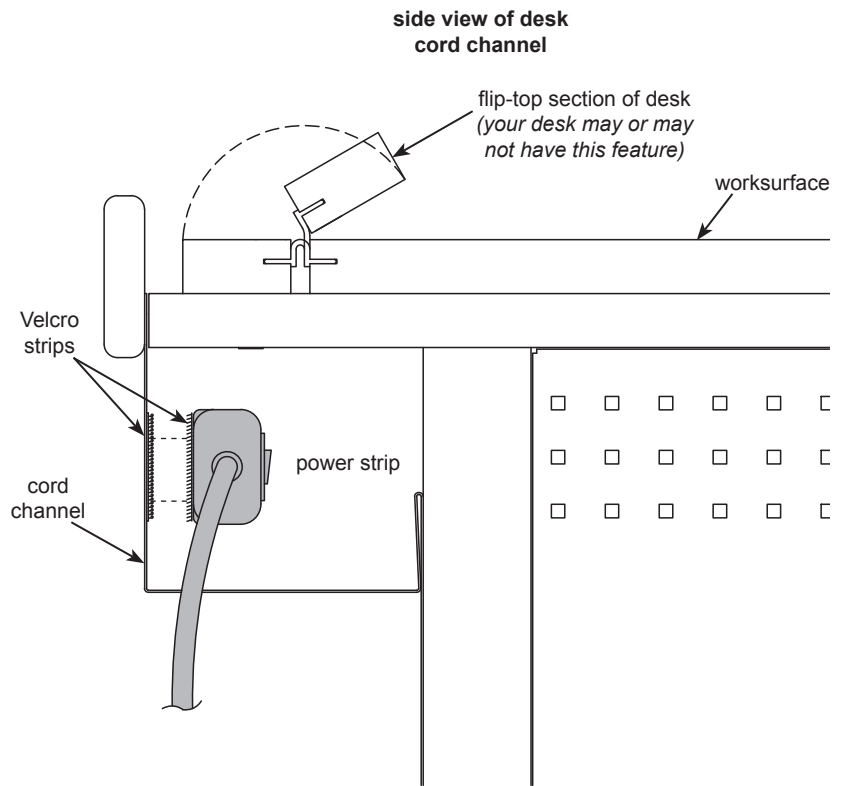

Figure 1B
3. Remove the backer from the second Velcro strip, and attach to the vertical part of the cord channel shown in **Figure 1B.**